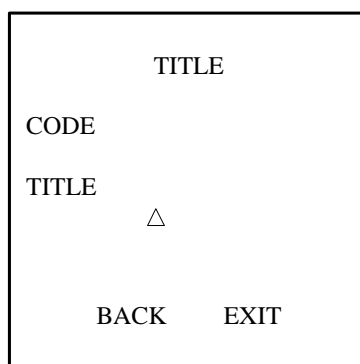

Figure 3-9 Set Dome Title
3. On the live view screen, call preset 11 twice within 5 seconds to enter the **SET TITLE** menu, as shown in Figure 3-9.